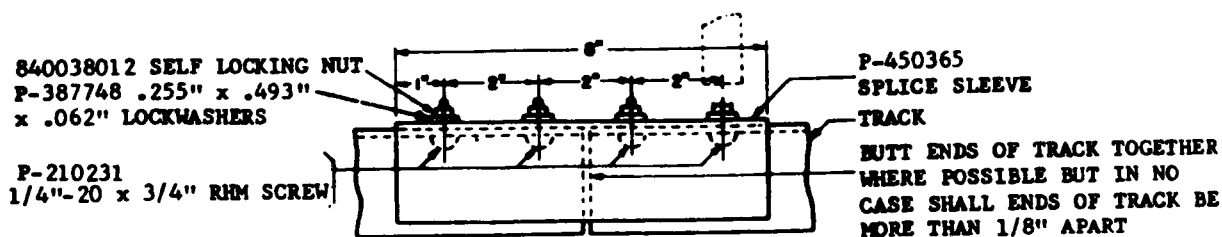

FIG. 8 SPLICING SLEEVE FOR LADDER TRACK
- 4.11 Sections of track should be spliced as shown in Figure 8. The splicing sleeves should be put on with a driving fit but should not be sprung in fitting to such an extent as to permanently change the shape of the track.
(BSP 800-614-159 FIG. 8)